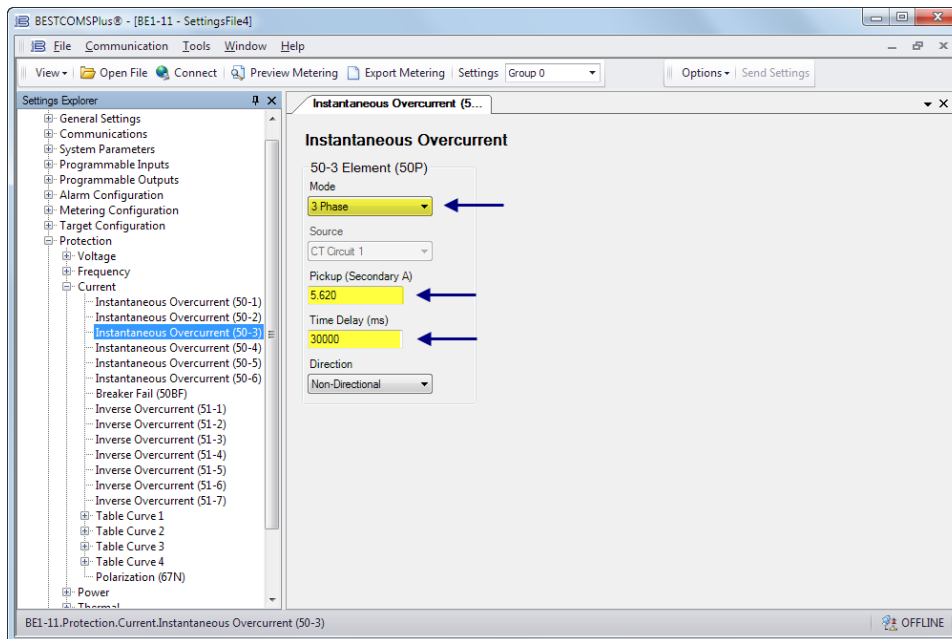

Figure 2-12. Instantaneous Overcurrent (50-3) Screen
Step 7: In the Settings Explorer, expand Protection, Current and select the Instantaneous Overcurrent (50-3) screen. See Figure 2-12.